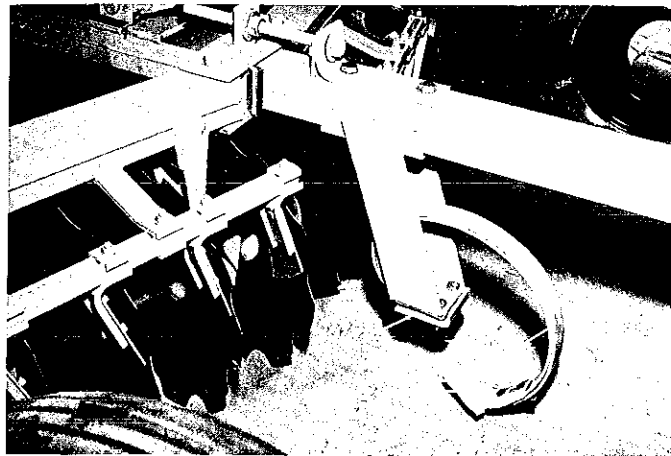

**FIGURE 9**
Install 140 hose support to tongue fitting with  $\frac{1}{2}$ " x  $1\frac{1}{2}$ " bolts and SA2300-1 swivel clevis to tongue with SA-2026 pin and  $\frac{1}{4}$ " x  $1\frac{1}{2}$ " cotter. (If the harrow is to be operated with a crawler tractor order SA-2301A crawler clevis). Note installation of transport lock (26042) to the center beam fitting with 26100 pin, 7086 hair pin on one side and 7077-18 cotter pin on the other. The transport lock is carried on top of center beam between the lever arm when not in use (Figure 9).
**FIGURES 9 & 9A**—Install any ASAE standard 8" stroke, two-way hydraulic cylinder, not larger than 3½" dia. using 7010-26 pins and 006320 cotters. Note position of transport lock when stored. The 26100 pin must be removed to change the lock from storage to transport position and is installed with the 7086 hair pin on one side for easy removal.